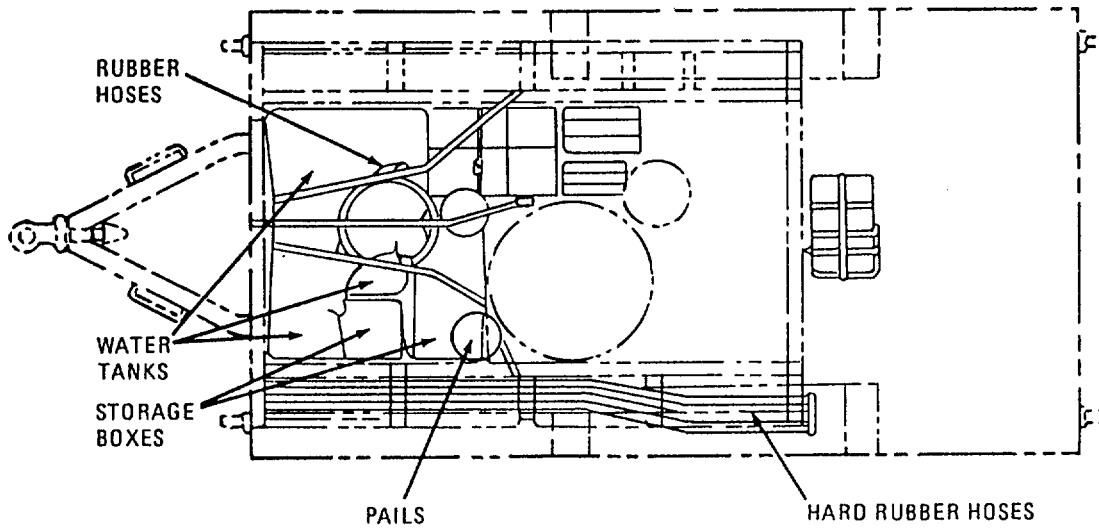

FIGURE 1-3. TOP VIEW OF ROWPU WITH OPERATING EQUIPMENT STORED (ARMY).
The Army ROWPU is 18 feet (5.5 meters) long, 8 feet (2.4 meters) high, and 8 feet (2.4 meters) wide. It weighs about 8 1/2 tons (7.71 metric tons), including the generator set. Figure 1-3 shows the ROWPU from the top with its canvas cover removed. Take a close look at how all the necessary operating equipment is stored on the trailer for transport and shipment.
a. To provide room for all operating components, material is stored in layers (figures 1-3 and 1-4) The top layer consists of rolled-up (suction) hoses on top of three folded water tanks. Stored between the tanks is a sledge hammer and a collapsed telescopic aluminum paddle. Next to the tanks is a stack of five plastic pails. On the same side of the ROWPU you will find two storage boxes fastened with a strap under the tanks. The boxes contain various chemicals, tools, and installation items. Nine sections of suction hose are stored on the side of the frame.